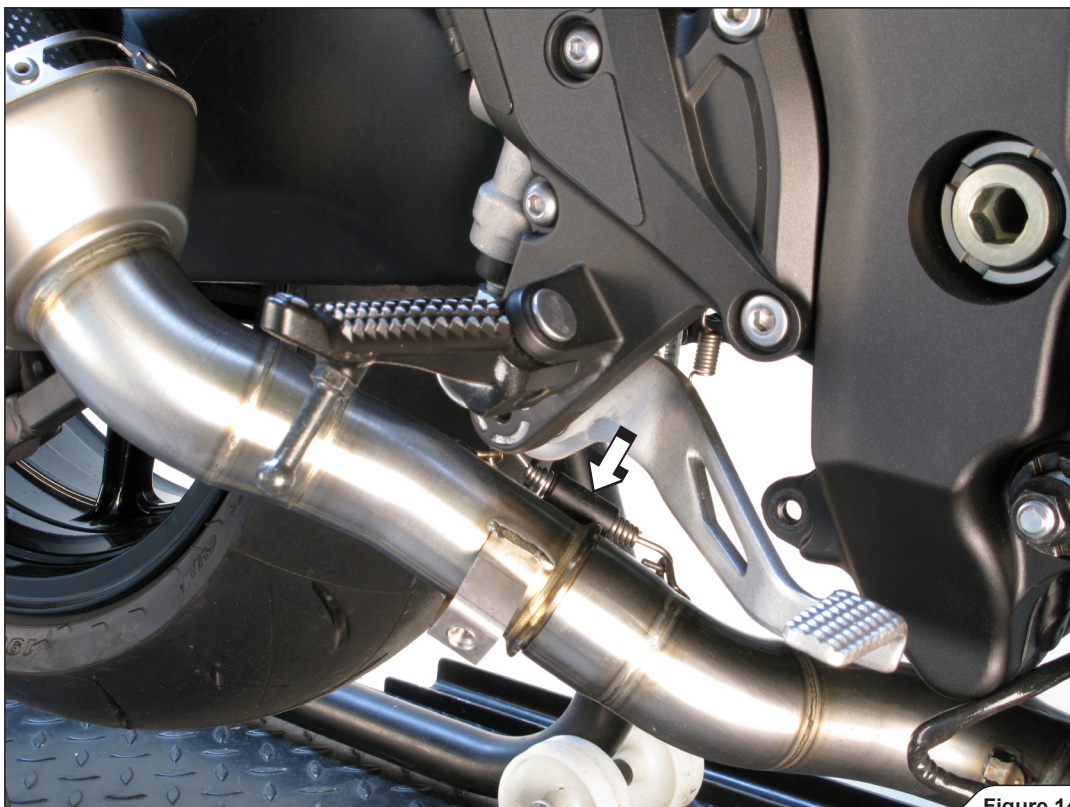

Figure 14
7. Slide the mufflers' inlet pipes all the way into the collector outlets, attach the springs from Akrapovič installation kit and hand tighten the muffler clamps to the brackets, using stock bolts and nuts (Figure 14).